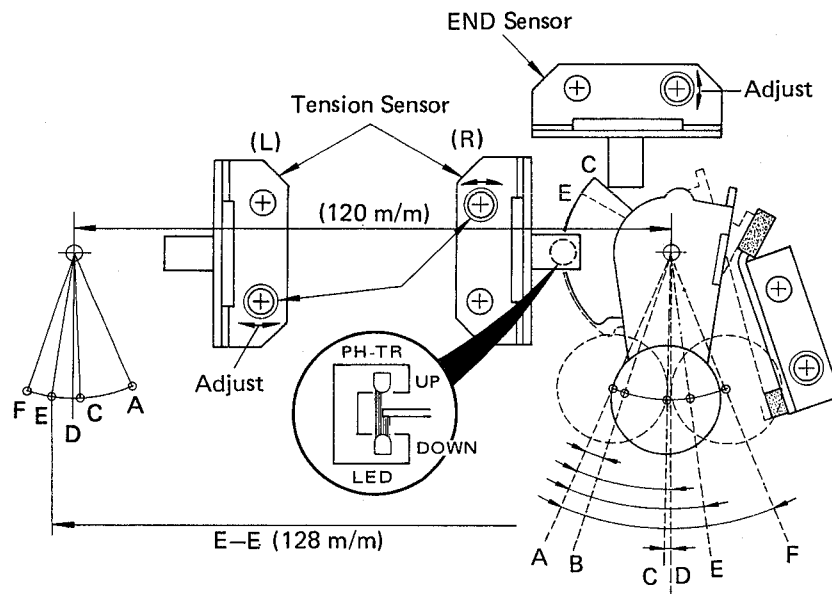
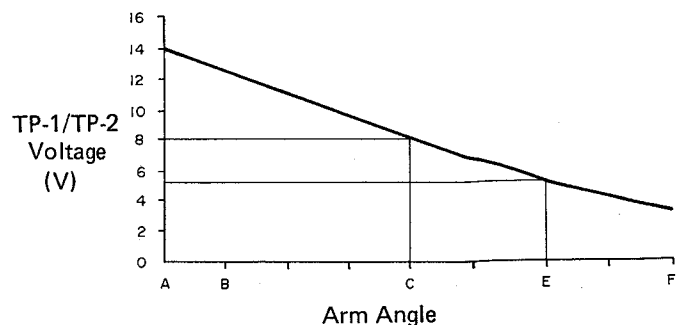
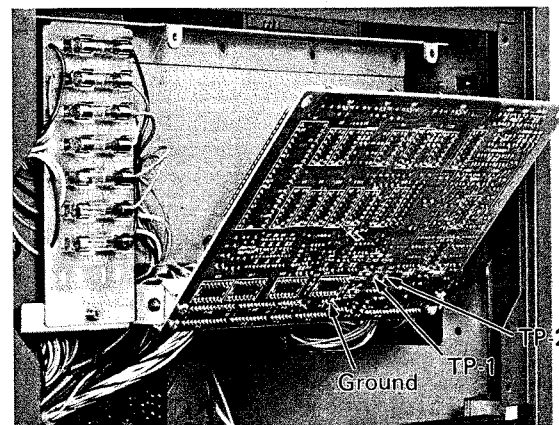

Fig. 7-16. Moving Position of Tension Arm Ass'y
Fig. 7-17. Detection Characteristics of the Sensor
Fig. 7-21. Control PCB Ass'y
Fig. 7-16 shows the tension arm positions and its relation with the sensor. Fig. 7-17 shows the relations between the angle of the tension arm and voltage at TP-1 and TP-2 which are also illustrated in Fig. 7-21.
1. Remove the front panel (A) assembly as described in 7-4-1 (B).
3. With the deck in the edit mode, confirm that both tension arms are near the E position shown in Fig. 7-16 — about 30° from the free position C. The interval between both of the tension arms E points should be approximately 112 mm.
1. Thread a tape onto the deck and set it into the fast forward or rewind mode. Begin measuring at the point where the tape speed seems to be stabilizing; the tape becomes stable when the tension arm on the take-up side drops back after initially drawing the tape upwards. Adjust R2 (rewind mode) and R3 (fast forward mode) so that the tension arm on the supply side comes to the C position shown in Fig. 7-16. If a tentelo meter is used, the following specifications should be of help.
3. Connect a DC voltmeter between TP-1, TP-2 and ground located on the control PCB on the rear of the deck. TP-2 can be identified by its location on the right tension arm side, while TP-1 will be located on the left tension arm side. Refer to Fig. 7-21.